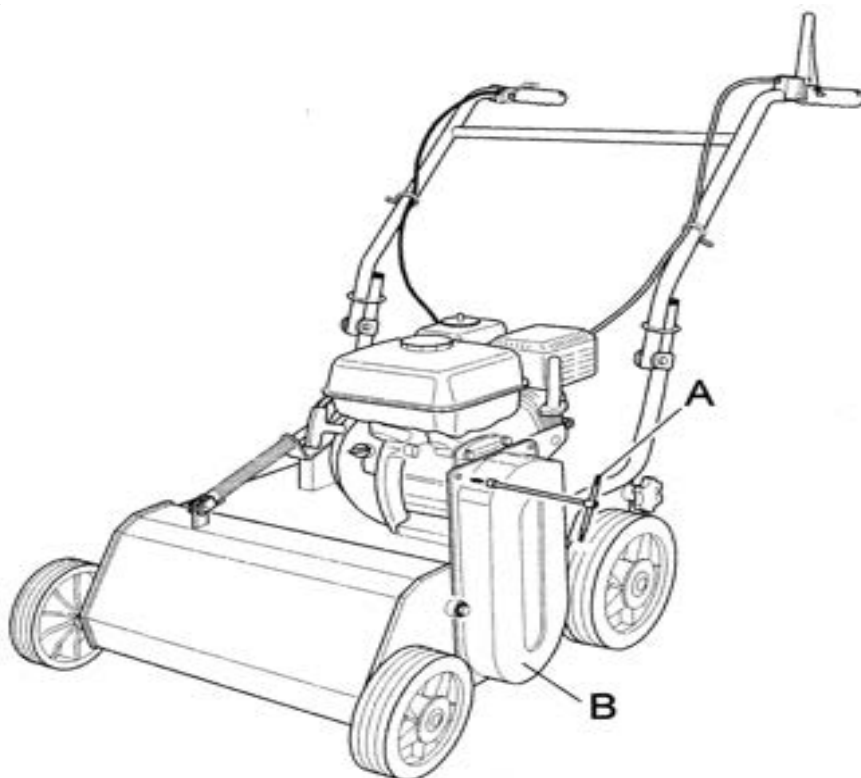

Figure 7
- Take off the protective plastic film (Fig. 7 ref.B) by unscrewing and removing the fixing screws using the key as shown in fig. 7 ref. A.
- The belt guard (Fig. 7 ref. B) , the front guard (Fig. 1, ref. E) and the rear guard (Fig. 1,ref.A) must always be correctly installed and intact. If they become damaged, have them repaired before the machine is used again.
- Clean the inside of the belt guard (fig. 7, ref. B) with a blast of compressed air.